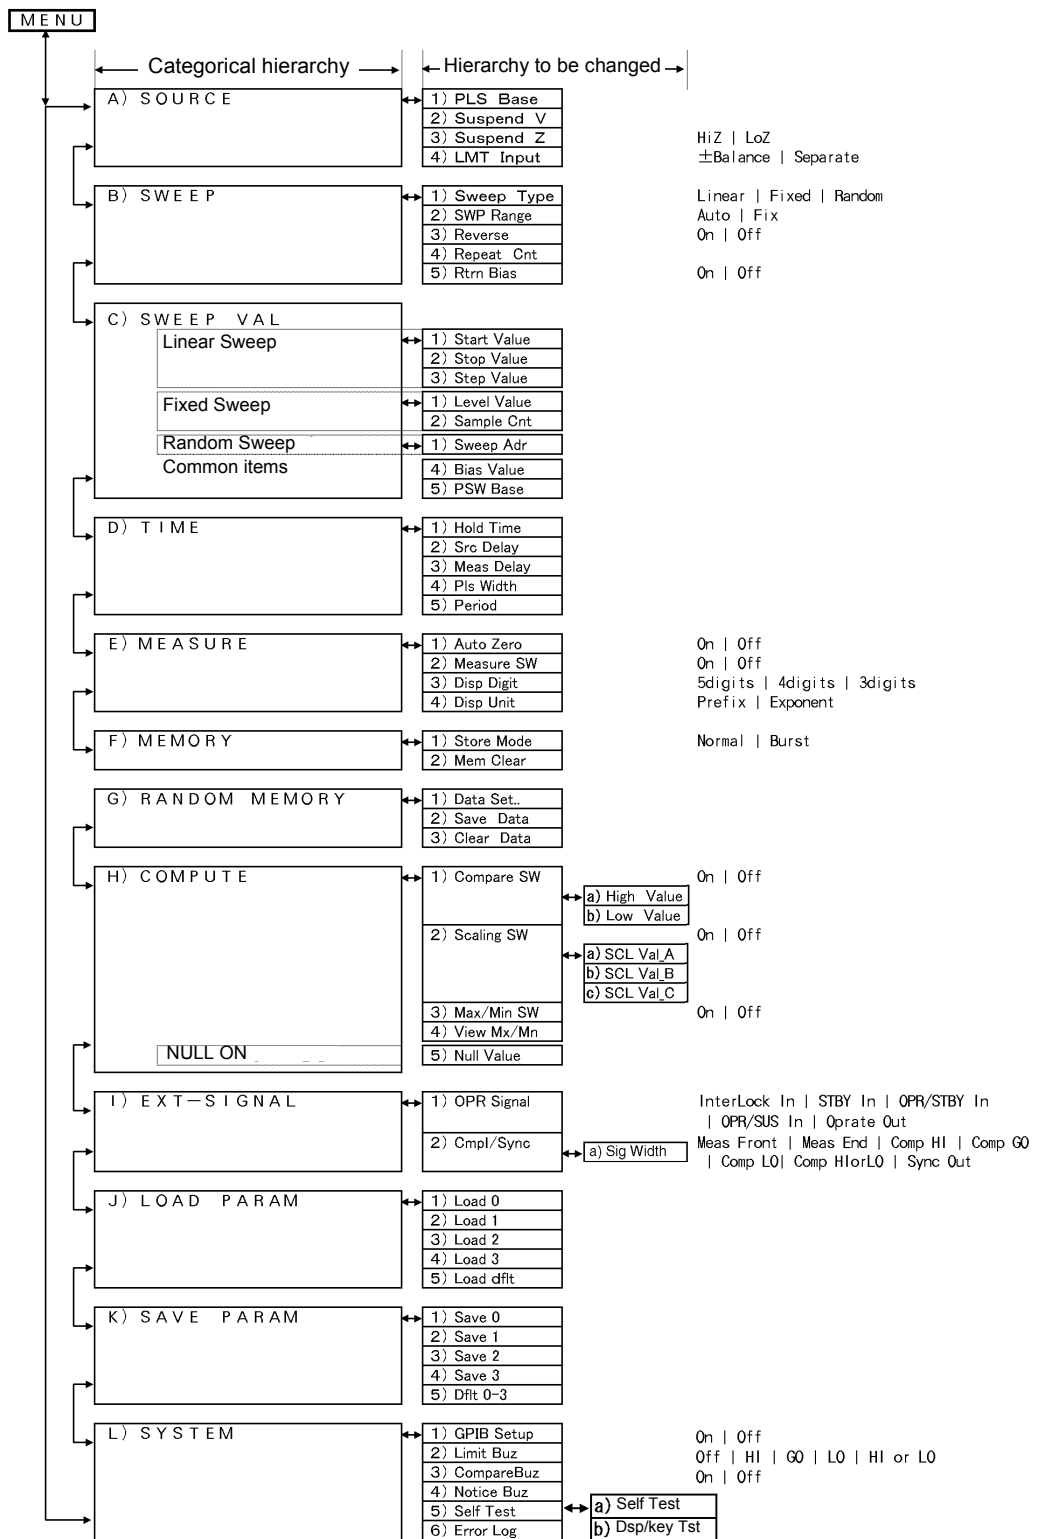

Figure 2-14 Menu Data Structure
Figure 2-14 shows the menu data structure of MENU key.
1. *In the Operate or Suspend modes, only parameter items that can be set are displayed in Figure 2-14.*